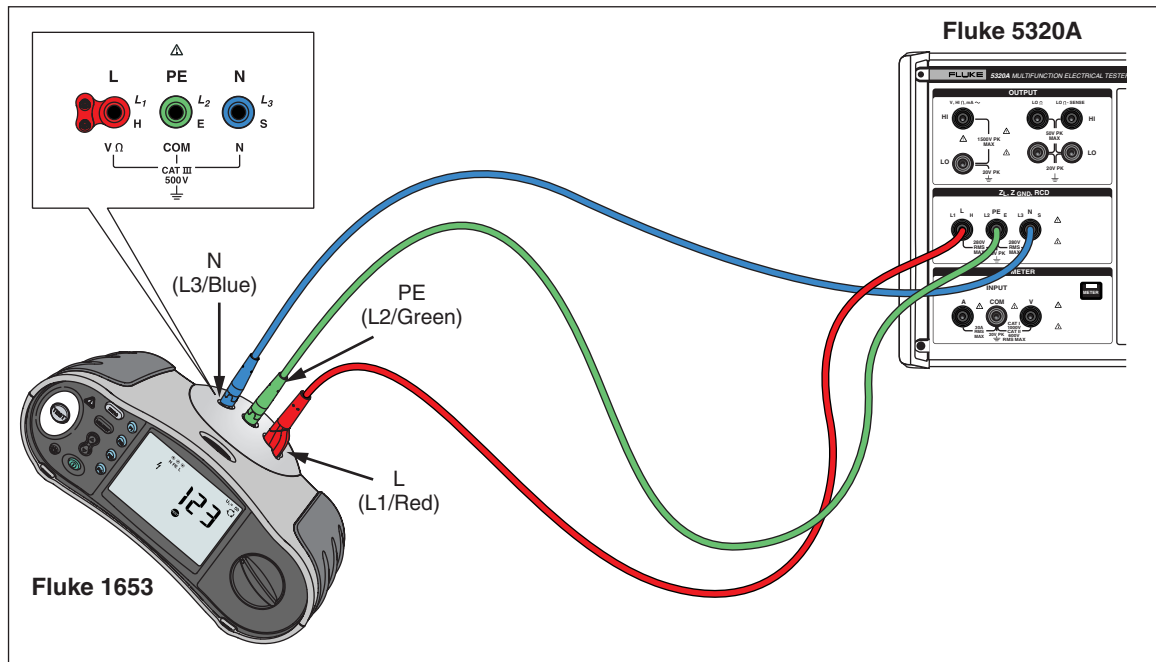

Figure 7-17. RCD Trip Time and Trip Current Calibration
1. Using Figure 7-17, connect the UUT to the Calibrator's **L**, **PE**, and **N** terminals.